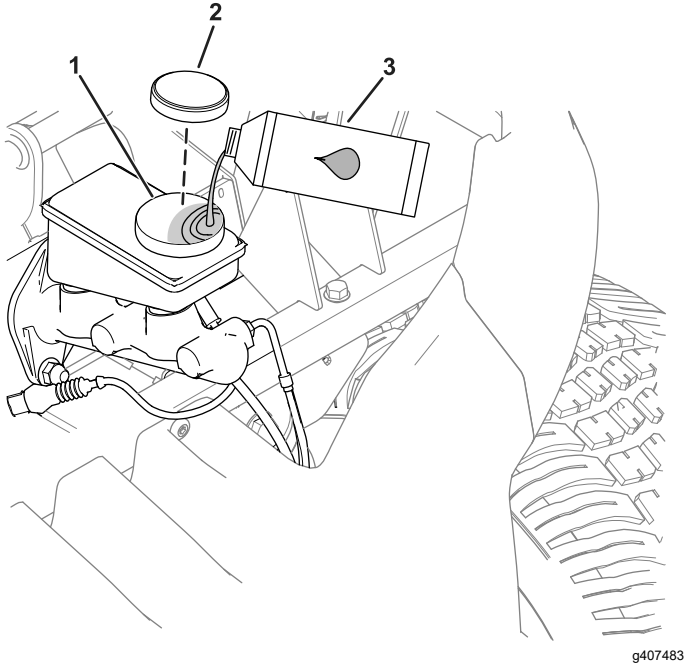

Figure 53
1. Remove the hood to access to the master brake cylinder and reservoir (Figure 53).
- A. Clean the area around the reservoir cap and remove the cap (Figure 53).
- C. Install the reservoir cap (Figure 53).